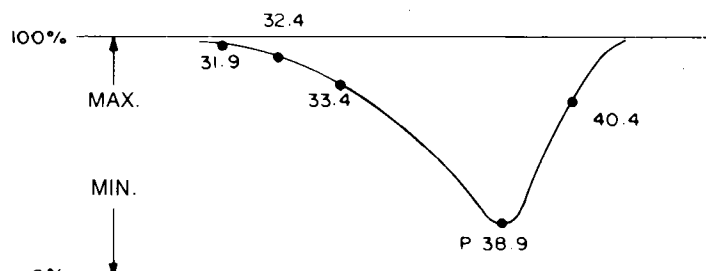

Figure 2
- b) Adjust L103(Detection Special Quality Adjustment Coil) in order to minimize the PICTURE CARRIER MARK as shown in figure 2.